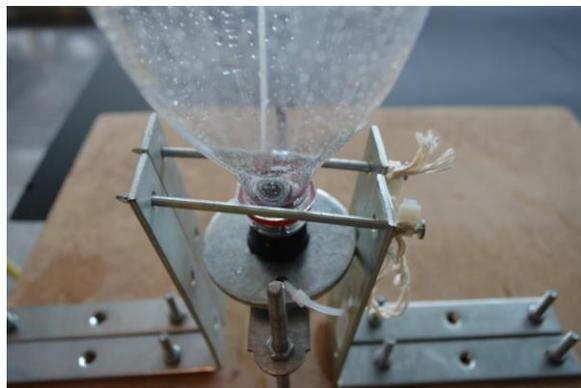

Figure 21. Steel nails pass smoothly but firmly above the wide neck lip
11. Take the needles and slide them through the top holes of the vertical parts of the steel brackets. Adjust the nails so that they pass smoothly but firmly above the wide neck lip (see Fig. 21). The role of the nails is to hold down the bottle while you pump up the rocket. You can use the nuts under the mending plate to adjust it to the right height. If the bottle neck is below or above the nails or if the nails do not pass firmly through the neck then use the nuts under the mending plate to rise the plate to the desired height (see Fig. 22).